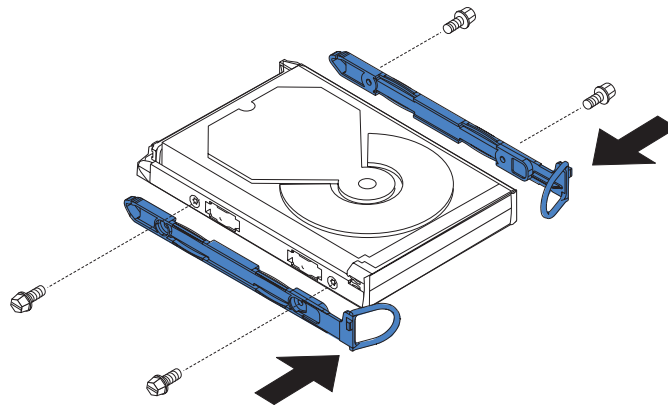

Figure 92. Attaching the rails to the SAN Volume Controller 2145-4F2 disk drive
- Find the rails and screws that are shipped with the new disk drive and attach the rails to the disk drive, as shown in Figure 92.